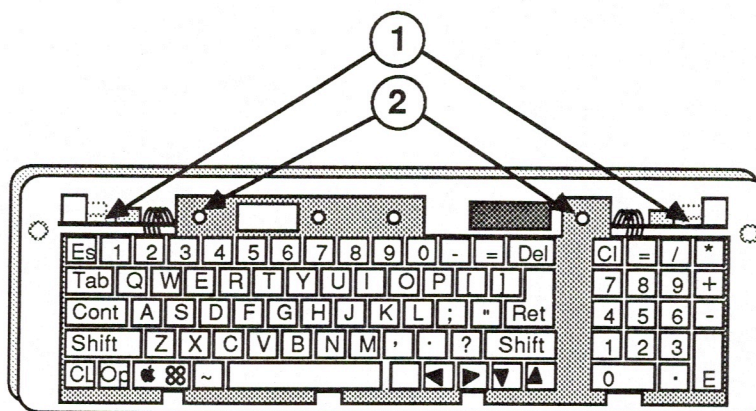

FIGURE 34
5. Before you remove the mechanical assembly from the bottom case, notice how the small breakaway boards (with the Apple DeskTop Bus connectors) fit into the upper corners of the bottom case (Figure 34, #1).
1. Place the mechanical assembly in the bottom case and slip the small breakaway boards into place vertically (Figure 34, #1).
2. Engage the top cover's teeth onto the front edge of the bottom cover, and fit the top cover's guide posts into the holes on the bottom cover (Figure 34, #2).